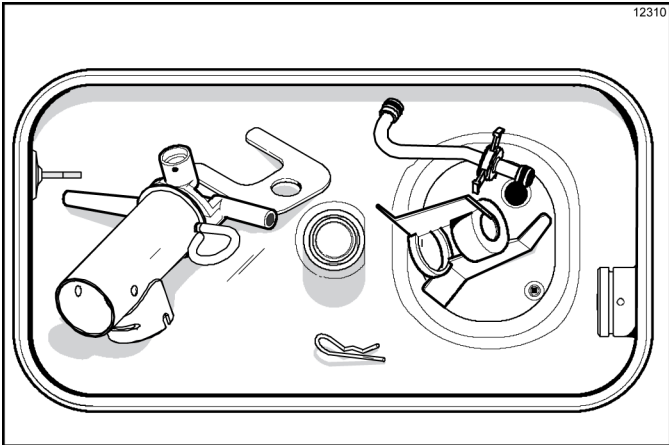

Figure 6-32
12. Lay the pump assembly, pump clip, feed tube, cotter pin, and agitator in the bottom of the mix hopper for sanitizing. (See Figure 6-32.)